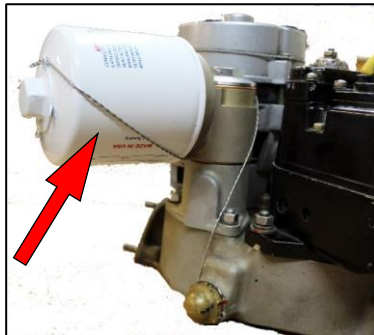

Figure 11
12. Install the oil filter in accordance with the filter manufacturer's instructions. Check that at least 3/8-inch of clearance exists between the oil filter and other parts in the engine compartment. Safety-wire the filter to a hole in the safety wire tab below the filter mount pad on the adapter, see Figure 11.